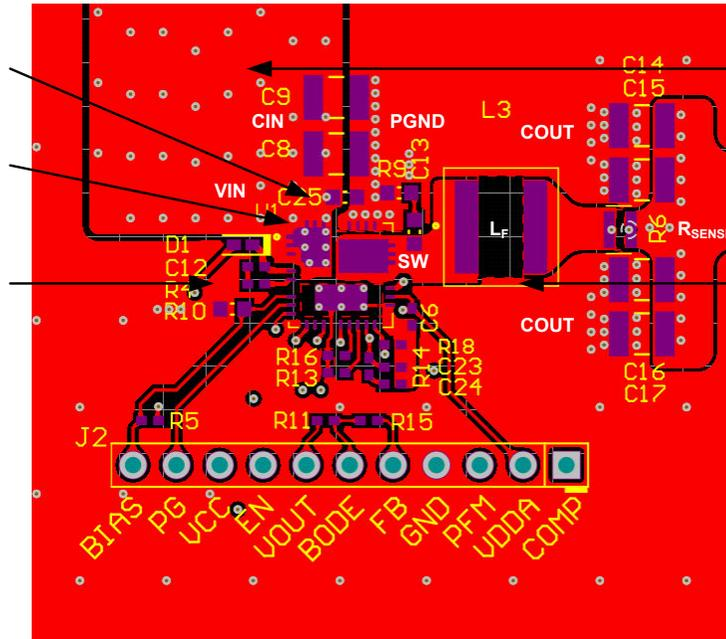

图 8-29. PCB Top Layer - High Density, Single-sided Design
The following list summarizes the essential guidelines for PCB layout and component placement to optimize DC/DC converter performance, including thermals and EMI signature. Figure 8-29 shows a recommended layout of the LM70880-Q1 with optimized placement and routing of the power-stage and small-signal components.
- Use low-ESR ceramic capacitors with X7R or X7S dielectric from VIN to PGND. Place an 0402 capacitor close to VIN for high-frequency bypass as shown in Figure 8-29. Use additional 1206 or 1210 capacitors for bulk capacitance.